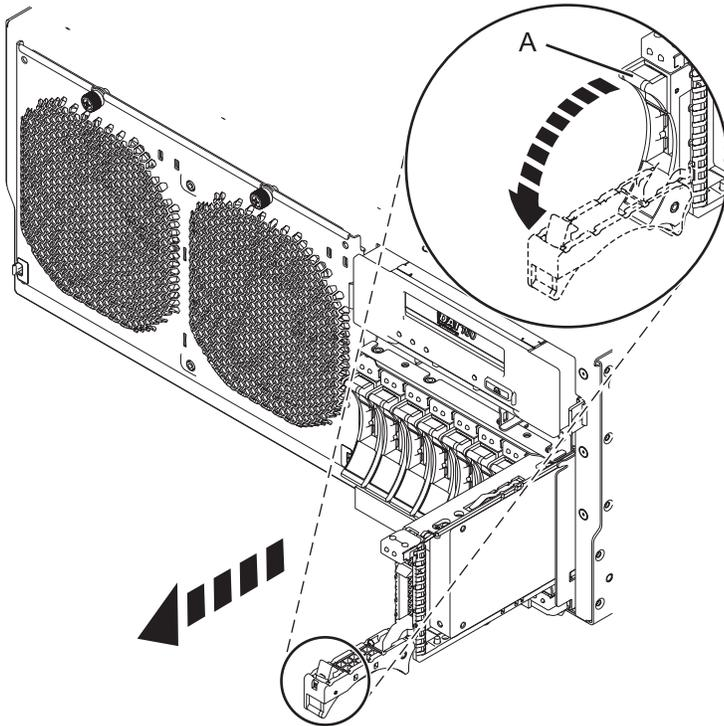

Figure 21. Removing a disk drive from the system
- Unlock the drive handle by squeezing it and pulling it out toward you, as shown in Figure 21 on page 36.